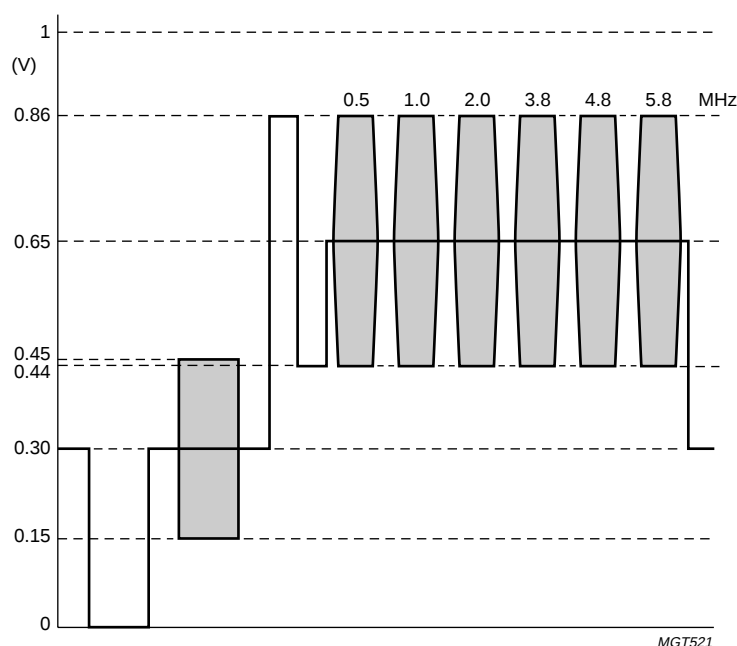

Fig.4 CCIR-18 multi-burst.
5. Test signal for PAL B, G, H, D, I and N: CCIR-18 multi-burst (see Fig.4). For PAL M and NTSC M: 100% amplitude FCC multi-burst (see Fig.5).